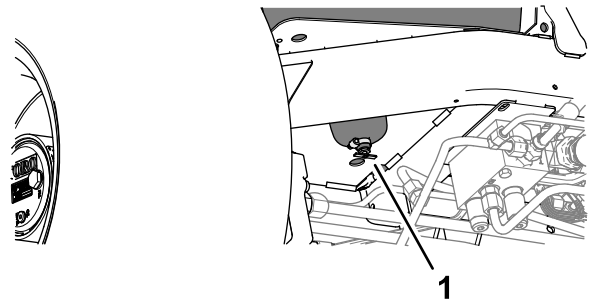

Figure 82
2. Align a drain container under the drain valve at the bottom of the fuel tank (Figure 82).